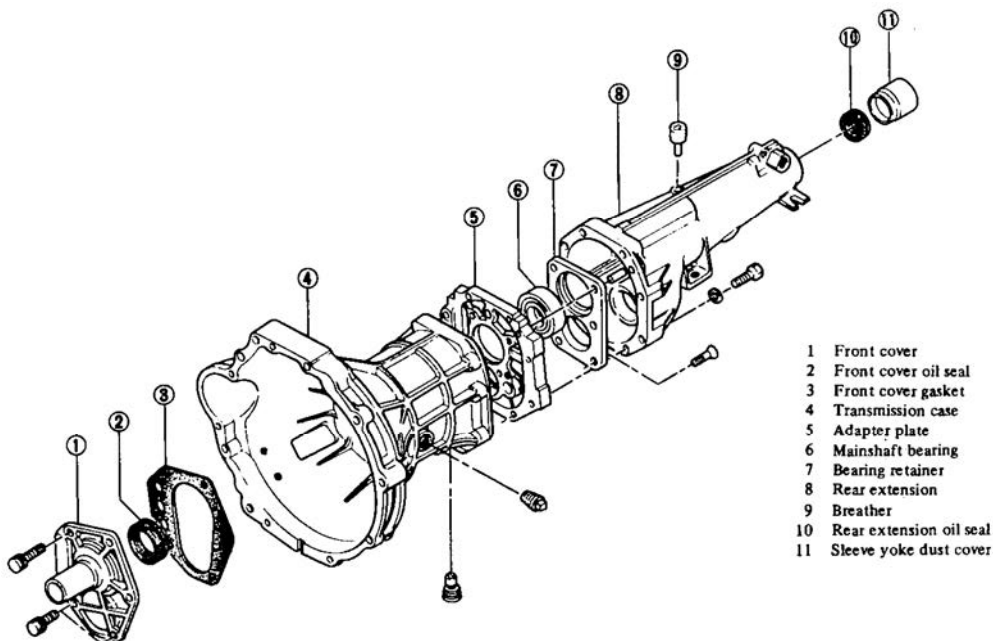
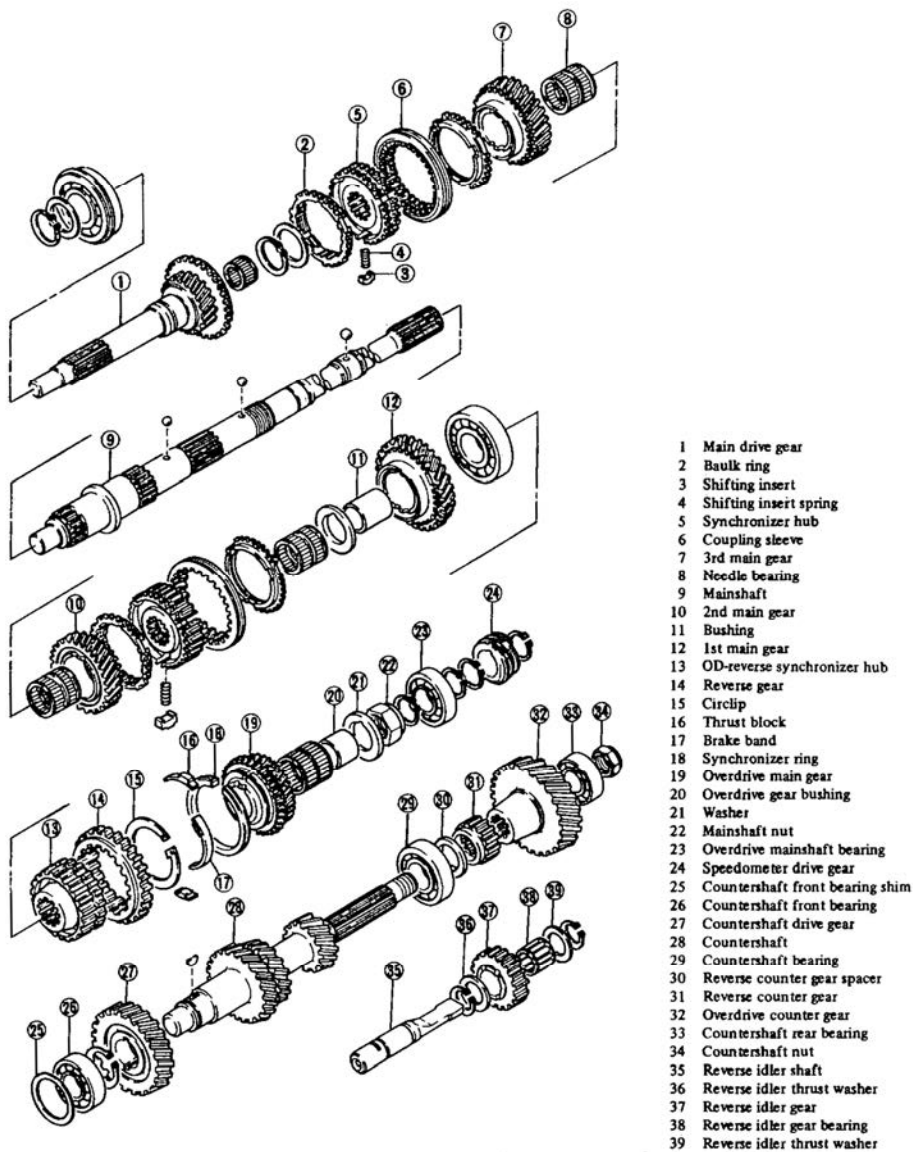

Figure 1—Exploded view of the main components of the FS5W71.
Figure 2—Exploded view of the FS5W71 main and countershafts, including gears, synchronizers, and bearings.
Photo 23 shows the OD/Reverse synchronizer hub components. Parts inspection is the same as above except for the 5th gear synchronizer ring (Figure 2, Part
18). This is a fiber ring with a wear surface. If it is severely pitted or if it is missing any part of the fiber, it must be replaced with a new ring from Nissan. Notice also the thrust blocks (Figure 2, Part 16) are stamped with a Mitsubishi logo. Not important, just interesting to note how many manufacturers submitted components. On this synchronizer assembly, 5th gear is also the coupling sleeve that slides between reverse, neutral, and 5th gear when shifting. Photo 24 shows my completely knackered 5th gear. The gear teeth are forced into mesh with the reverse idler gear when shifting into reverse. There is no synchronization of gears utilizing a baulk ring as in the other gears. When your engine is running and you press in the clutch, you must wait a moment before shifting into reverse to allow the shafts to stop spinning or this is what happens. 5th gear on this transmission should also be replaced along with the reverse idler gear.
Photos 25, 26, and 27 are the critical sections of the mainshaft. Photo 25 shows the splines of the tail end of the mainshaft, where the driveline yoke is installed. Use a paper towel and your thumbnail and clean out every single spline. Now inspect the splines to make sure they are sharp and completely straight. Remember all those high-revving clutch sidesteps you do? These splines take part of the abuse and while not prone to twisting or flexing, they still can become malformed. Photo 26 shows the threads for the main nut, journal area, and splines for the OD/Reverse synchronizer hub (Figure 2, Part 13). The threads are rolled and hardened. If they are damaged, you may be out of luck. If they do have damaged areas, do not try to find a die to fix the threads. First off, you won't find one. Second, a die cuts and will damage all the threads. Instead, find a thread repair bar for metric 1.0 pitch threads. Running the bar over damaged threads may straighten them without cutting new threads. The journal areas should be free of any scoring. Bad scoring on the journal may be able to be ground below grade if the scoring is not significant and is localized. The splines should be cleaned and should be straight and sharp. Damaged splines cannot effectively be repaired. Photo 27 shows more journals and splines on the front of the mainshaft. Check as before.
Photo 29 shows the countershaft assembly and all components. New bearings are included in the kit. The new nut came from Nissan. Check all gears as before for chipped teeth. Check the countershaft drive gear (Figure 2, Part 27) for any wear in the slots for the woodruff keys. Check the reverse counter gear (Figure 2, Part 31) and reverse counter gear spacer (Figure 2, Part 30) for wear on the faces. Photo 30 shows light scoring. This surface should be cleaned and a thicker spacing washer used, but in a bind will suffice. Check the countershaft surfaces and gears. The threads should be clean, the splines sharp and straight, and all journal sur-
Press a new mainshaft bearing (Figure 1, Part 6) into the adapter plate (Figure 1, Part 5). If using a mallet, make sure you only tap the bearing outer race and not the inner race. Place the adapter plate back in the holding fixture and place in your vise. Insert the reverse idler shaft (Figure 2, Part 35), aligning the slot in the shaft with the indent in the bearing retainer (Figure 1, Part 7). Install the bearing retainer bolts and, using a T40 Torx driver in an alternating pattern, torque each to 14 to 18 ft. lbs. (Photo 33). Now stake the bearing retainer bolts. The easiest way to stake the bolts is to use a center punch and tap the bolt where it just meets the adapter plate. Press countershaft bearing (Figure 2, Part 29) into adapter plate. If using a soft mallet, only tap the outer bearing race and not the bearing inner race (Photo 34).
We'll be installing the 1st/2nd gear assembly (Photo 35) into the mainshaft. Assemble the 1st/2nd gear synchronizer hub assembly. Assembly of the 1st/2nd gear and 3rd/4th gear synchronizer hubs is the same. Place the coupling sleeve (Figure 2, Part 6) flat on the work surface. Insert the shifting insert springs
(Figure 2, Part 4) into each bore in the synchronizer hub (Figure 2, Part 5). Place the shifting inserts (Figure 2, Part 3) onto the springs and compress with your fingers. Now set the synchronizer hub into the coupling sleeve (Photo 36). Push down gently on the synchronizer hub as you compress each shifting insert. As the synchronizer hub slides into the coupling sleeve, press downward on each shifting insert. The inserts will snap into place inside the coupling sleeve (Photo 37). Take your time and make sure you do not crush a shifting insert spring or press the synchronizer hub in too far before seating the shifting inserts. Apply oil to the journal directly behind the separator cast into the mainshaft (Photo 27). Install the 2nd gear needle bearings onto the journal. Oil the needle bearings and install 2nd gear (Figure 2, Part 10) onto the needle bearings. The surface for the baulk ring faces the rear. Put oil on the baulk ring surface and install the baulk ring. Install the synchronizer hub assembly onto the splines on the mainshaft. Rotate 2nd gear on the mainshaft until the notches in the baulk ring align with the shifting inserts on the synchronizer hub and the synchronizer hub slides down and seats against 2nd gear. Install another baulk ring, engaging the shifting inserts into the slots in the baulk ring. Apply oil to the journal on the mainshaft. Install the bearing
sleeve (Figure 2, Part 11) and apply oil to the outside surface. Install the 1st gear needle bearings and oil them. Install 1st gear (Figure 2, Part 12) over the needle bearings with the front of the gear seated in the baulk ring. The assembly should now look like Photo 38. Locate the ball socket on the mainshaft (Photo 39) and apply a dab of bearing grease. Insert locating ball. Apply oil to the backside of 1st gear and install the thrust washer with the cutout on the inside of the thrust washer over the locating ball. Now we need to install the mainshaft into the adapter plate. Photo 40 shows the first setup I used to install the mainshaft into the adapter plate. While this looks like an OK setup, it actually was not. First, by having the mainshaft above the adapter plate, the entire gear assembly wanted to fall down, possibly dislodging the locating ball. Secondly, I was only supporting the adapter plate, and by extension, only the outer main bearing race, yet the pressure from the press was against the mainshaft, and by extension, to the main bearing inner race. I thought about all this AFTER I had pressed the shaft into place. As a precaution, I disassembled the entire assembly, purchased a new \$16 mainshaft bearing, and started over. Do not use this method as damage to the main bearing can incur. Photo 41 shows the proper setup for installing the mainshaft into the adapter plate. A 24"
Apply oil to the front journal on the mainshaft. Install and oil the 3rd gear needle bearings (Figure 2, Part 8). Install 3rd gear (Figure 2, Part 7) with the baulk ring mating surface facing forward. Apply oil to the baulk ring surface and install the baulk ring. Install the 3rd/4th gear synchronizer hub assembly onto the mainshaft splines, rotating 3rd gear until the shifting inserts engage the slots in the baulk ring. The 3rd/4th gear synchronizer hub assembly is not symmetrical – one side of the hub is thicker than the other. The thicker side of the hub faces
drive gear (Figure 2, Part 27) onto the front of the countershaft, over the woodruff keys. The countershaft drive gear has a thicker middle section that faces the rear of the transmission. Most likely you will need to move the main drive gear bearing (Photo 43). Press the countershaft drive gear onto the countershaft using the 12” long 1” galvanized pipe to support the adapter plate assembly and apply pressure against the countershaft bearing in the adapter plate. Use a piece of 2” pipe against the countershaft drive gear (Photo 44). Install snap ring to the front of the countershaft. If there is any end play between the countershaft drive gear and the snap ring, order a snap ring with the amount of end play added to the existing snap ring thickness. Available thicknesses are in the file “Extra Data.doc” or “Extra Data.mht” in the Zip file. Press the countershaft front bearing (Figure 2, Part 26) onto the front of the countershaft.
At the rear of the adapter plate, install the reverse idler thrust washer (Figure 2, Part 36) onto the reverse idler shaft. Apply oil to the idler shaft and install the reverse idler gear bearing (Figure 2, Part 38). Apply oil to the bearing and install
the reverse idler gear (Figure 2, Part 37) with knackered teeth facing the rear of the transmission. Install the other thrust washer (Figure 2, Part 39) and excessively thick snap ring.
Install the reverse counter gear spacer (Figure 2, Part 30) onto the countershaft. Install the reverse counter gear (Figure 2, Part 31) onto the countershaft with the longer hub section facing forward.
Install the OD/Reverse synchronizer hub (Figure 2, Part 13) onto the mainshaft with the longer hub section facing forward (Photo 45). Assemble the OD/Reverse synchronizer assembly. The anchor block and thrust block (Figure 2, Part 16) are 180 degrees apart with the brake bands (Figure 2, Part 17) between them. The black fiber synchronizer ring (Figure 2, Part 18) fits over this assembly with the ends of the synchronizer ring meeting the top of the thrust block. The circlip (Figure 2, Part 15) holds the entire assembly together. Install the reverse gear (Figure 2, Part 14) over the end of the OD/Reverse synchronizer hub, knackered teeth facing forward. Oil the mainshaft journal and install the overdrive gear bushing (Figure 2, Part 20). Oil the bushing and install the needle bearings. Oil the needle bearings and install the overdrive main gear (Figure 2,